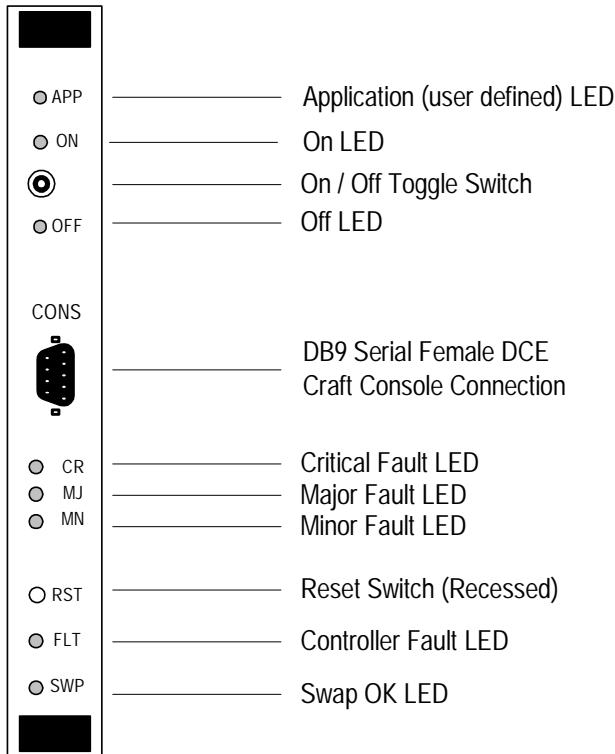

Figure 7 CCN front panel
1. Locate the On/Off toggle switch on the CCN front panel. See Figure 7 for location details.
- Locate the On/Off toggle switch on the CCN front panel. See Figure 7 for location details.